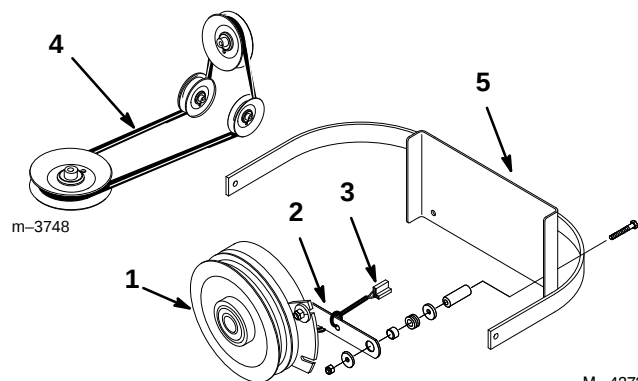

Figure 50
2. Remove the clutch retaining strap from machine frame and unplug clutch terminal from wire harness (Fig. 50).
3. Remove the PTO drive belt (Fig. 50).
5. Install clutch retaining strap and plug clutch terminal into main wire harness (Fig. 50).